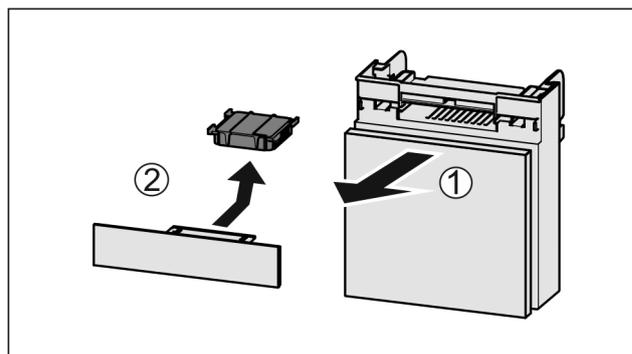

Fig. 139
- ▶ Pull out the compartment Fig. 139 (1).
- ▶ Remove the carbon filter Fig. 139 (2).